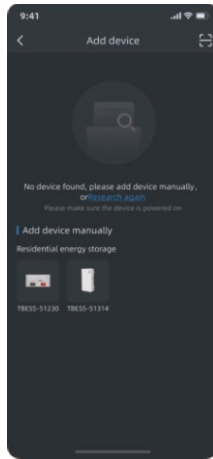

Figure 1
- 1) Figure 1: Confirm that the device has been turned on, try again near the device.